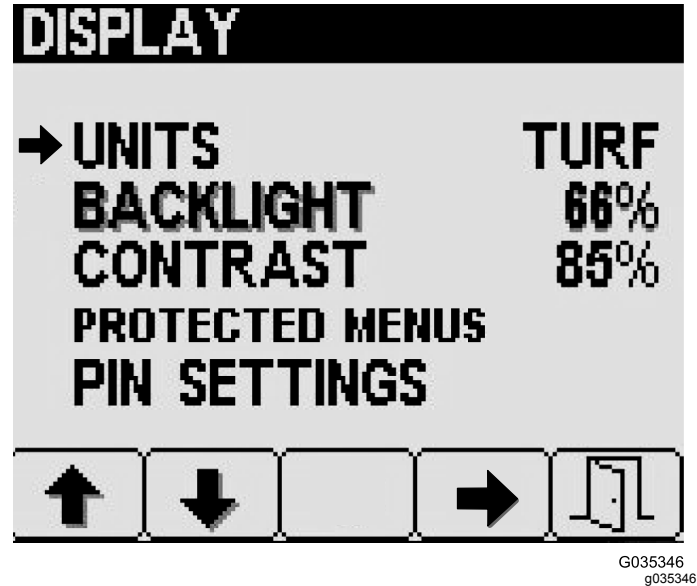

Figure 25
2. At the Display menu screen, press buttons 1 or 2 navigate to the Units option and then press button 4 to select Units (Figure 25).